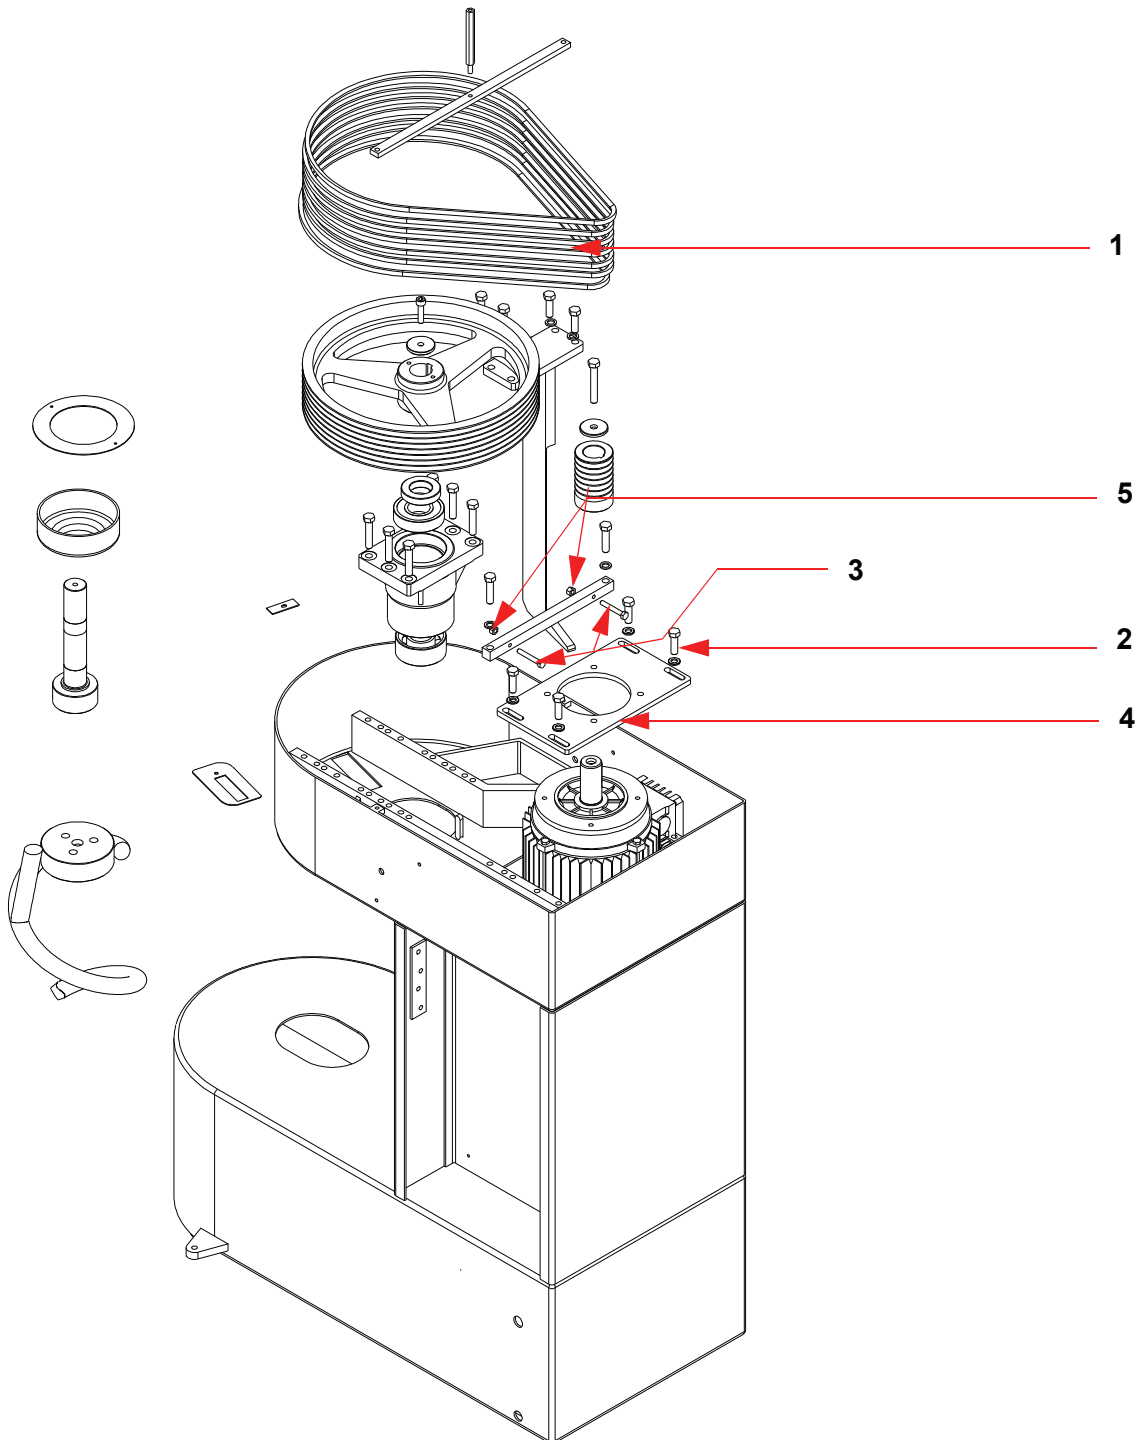

Fig. 12 Kneading tool drive
- 2) Slacken off the 4 screws securing the motor base (**ref. 2 Fig. 12** on page 46).
- 3) Turn the nut (**ref. 5 Fig. 12**) until the subsequent operation is possible.
- 4) Extract the worn belt/s (**ref. 1 Fig. 12**).
- 6) Turn the nut (**ref. 5 Fig. 12**) in the opposite direction to that of point 3) until the belts are correctly tensioned, see “**7.4.1 Tension of belts**” on page 44.
- 7) Tighten the screws (**ref. 2 Fig. 12**).
- 1) remove the belts (**ref. 1 Fig. 12** on page 46) as shown in “**7.4.2 Replacing the kneading tool drive belts**” on page 46;
- 2) remove the threaded tie-rod (**ref. 3 Fig. 12**) and the screws (**ref. 2 Fig. 12**);
- 9) remove the cover (**ref. 4 Fig. 12**);
- 11) fit the pulley to the shaft of the new motor and secure it with the side screw and mount removed in the previous step (**ref. 4 Fig. 12**);
- 20) remove the belts (**ref. 1 Fig. 12** on page 46), see “**7.4.1 Tension of belts**” on page 44.